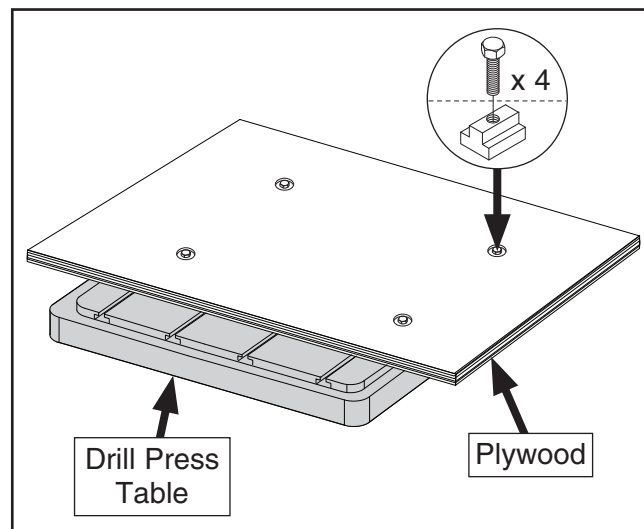

Figure 14. Plywood attached to drill press table.
9. Attach plywood to drill press table with (4) bolts and T-nuts, as shown in **Figure 14**.